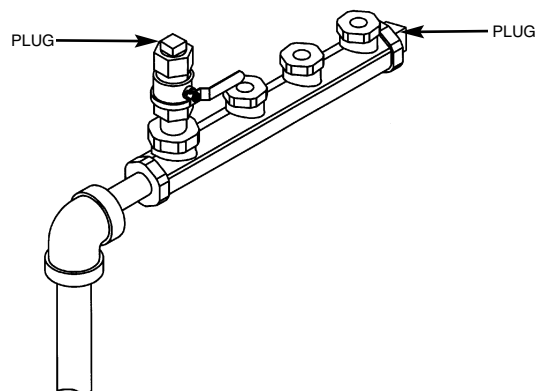

Figure 4.35
- To monitor downstream pressure, or to allow for future service additions, leave one port available (with a plug, or a valve end plug installed) in the multiport manifold (See Figure 4.35)